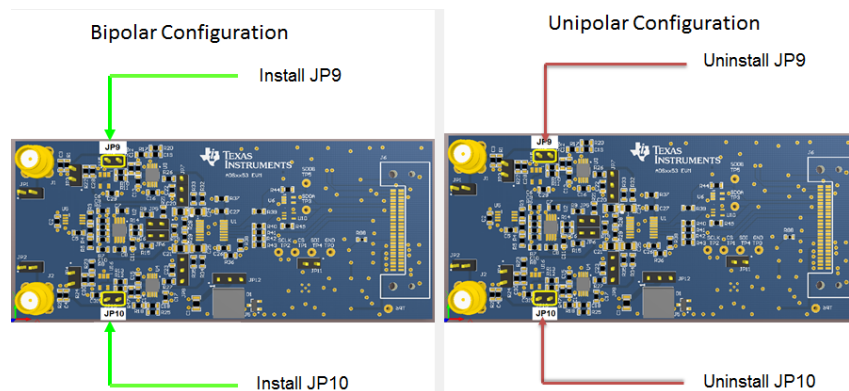

Figure 23. Bipolar or Unipolar Signal Jumper Settings Description on the GUI
6. The ADSxx53EVM can be driven with a signal generator producing a bipolar source signal centered on GND, or a unipolar signal centered at +FSR / 2. Install jumpers JP9 and JP10 when supporting a bipolar signal centered at GND. Remove jumpers JP9 and JP10 when supporting a unipolar signal source signal centered at FSR / 2. Figure 23 shows jumpers JP9 and JP10 on the *ADSxx53EVM Settings* page of the GUI.